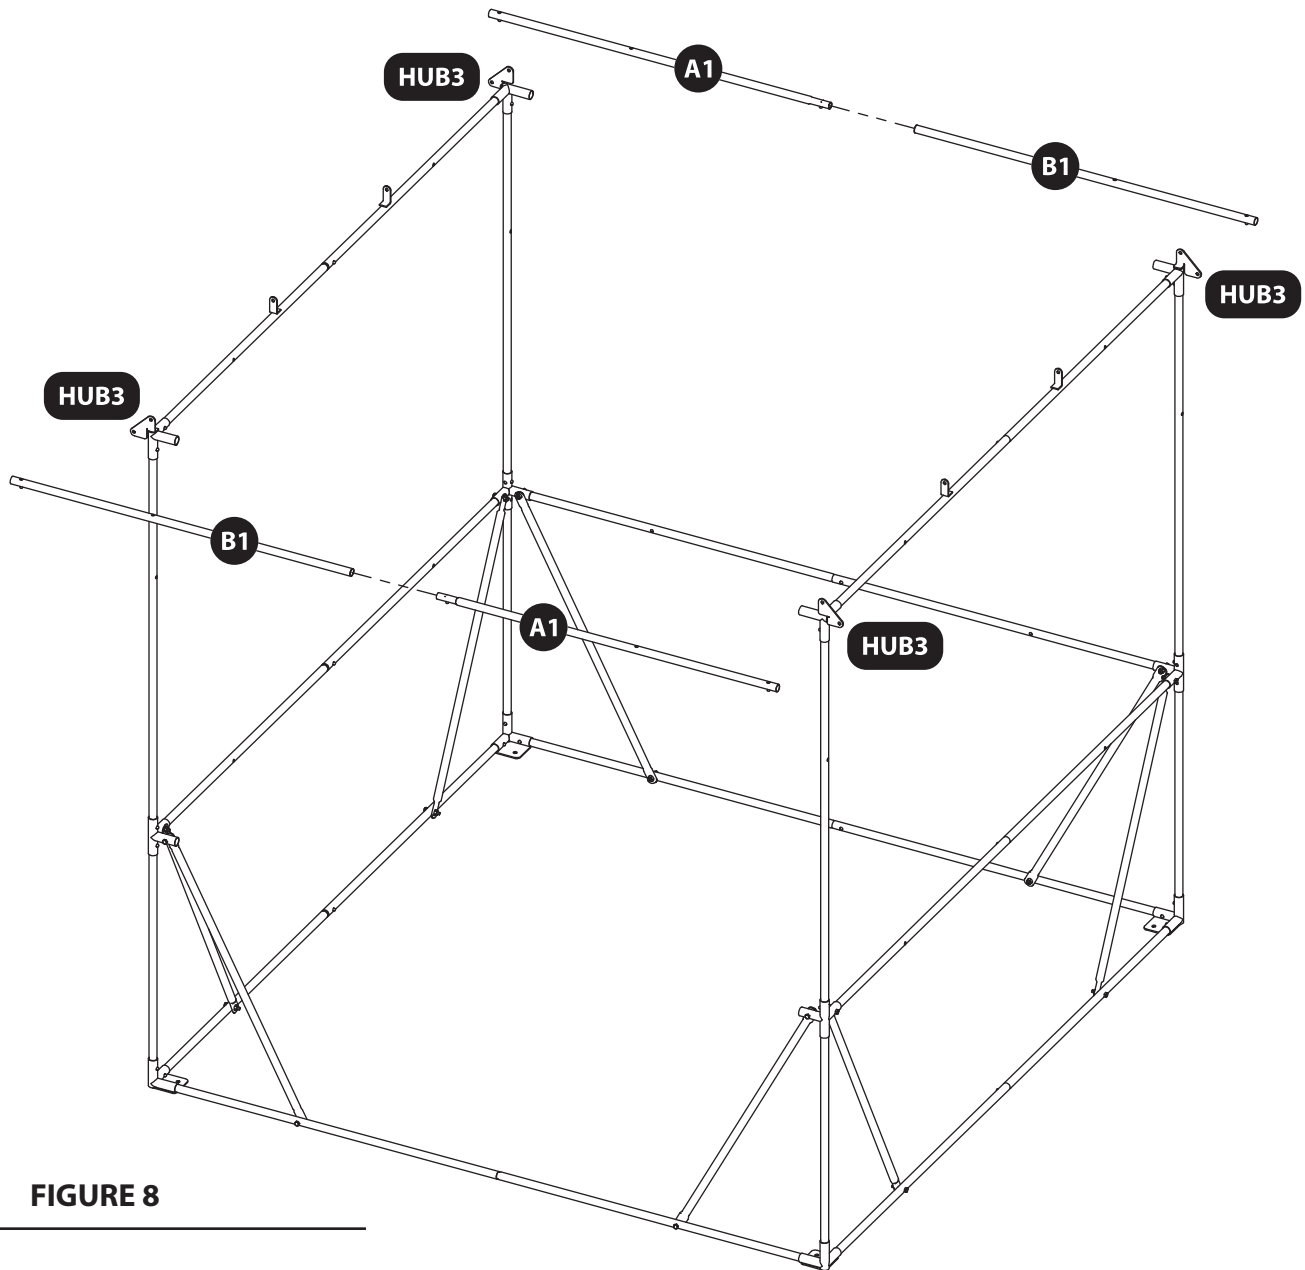

FIGURE 8
16. Slide remaining two A1 poles into remaining two B1 poles so that snap buttons secure both pieces together. **SEE FIGURE 8.**
17. Slide assembled A1 and B1 poles into HUB3 corner so that snap buttons secure pieces together. You should now have the top tier frame of the blind assembled. **SEE FIGURE 8.**